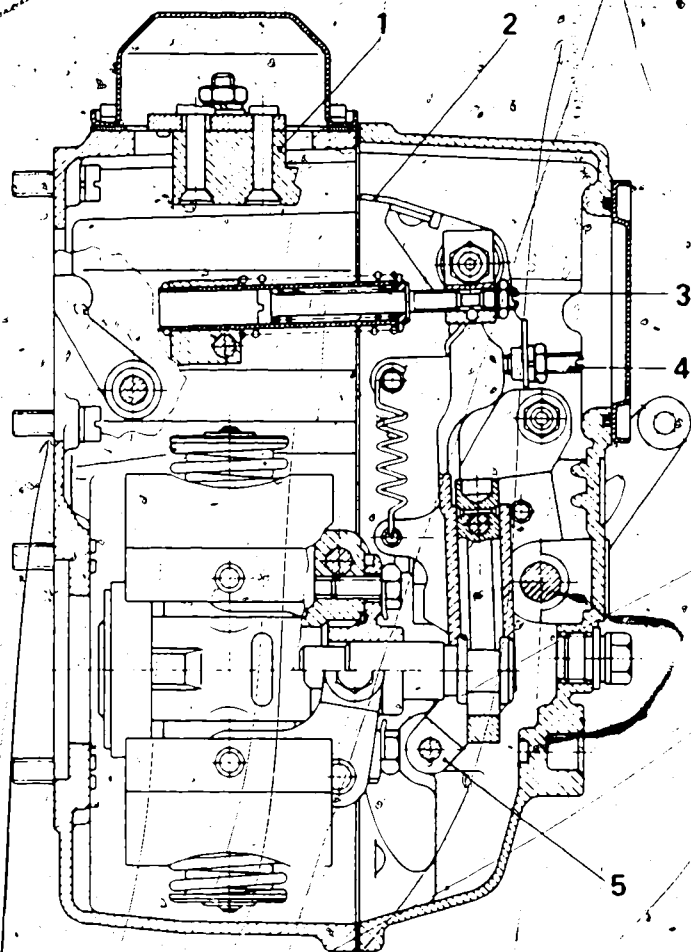

Fig. 3
In this case, when the pressure charger has not yet built up enough pressure for the MPC to respond, the full-load delivery is taken up by the stop screw of the elbow lever in the MPC. When the pressure charger is delivering sufficient pressure for the MPC to respond, full-load delivery values are set with the adjustable stop lug (Fig. 3) in the governor housing. The stop screw in the MPC housing is then set to the full-load control-rod travel + 0.5 mm.
See notes on Fig. 13 in VDT-W-420/303. Set 12.7 mm control-rod travel at full-load stop (Fig. 3). Set speed regulation at a speed of 1135 ... 1145  $\text{min}^{-1}$  at the speed stop screw. Replace MPC, if removed.
When speed drops from 850  $\text{min}^{-1}$  to 700  $\text{min}^{-1}$  additional control-rod travel of 0.1 mm, i. e. 12.8 mm, and from 700  $\text{min}^{-1}$  to 600  $\text{min}^{-1}$  a further additional 0.1 mm of control-rod travel, i. e. 12.9 mm, must be reached (in all, 0.2 mm additional control-rod travel). Correct at the adjusting screw of the rocker (Fig. 3).
- Always reset full-load stop (Fig. 3) to 12.7 mm control-rod travel at speed of 850  $\text{min}^{-1}$ .